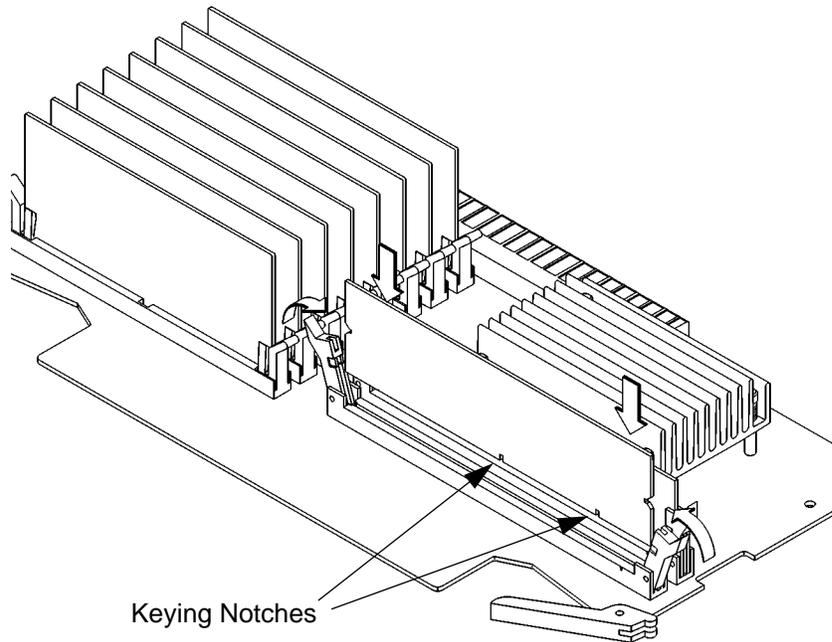

Figure 43 **Installing Cache Boards**
- 2 Open the ejector tabs on each side of the cache connector and line the cache board up with the guides making sure that the keying notches along the connector edge of the board are away from the memory modules, as shown in Figure 43.